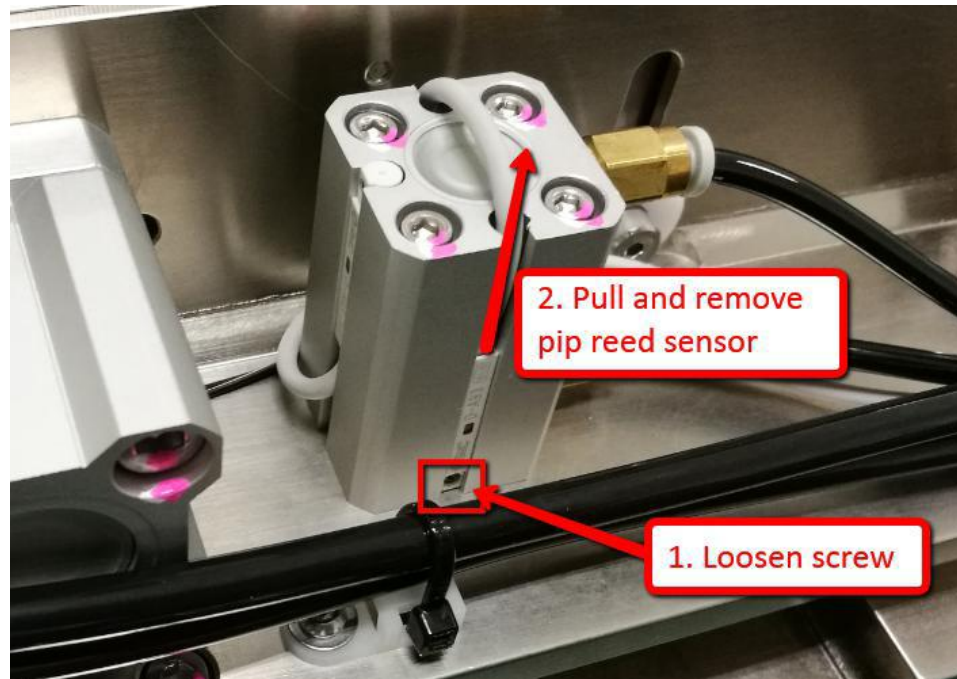

Figure 28 Right PIP In Reed Sensor Removal
6. Loosen screw and remove Right PIP In Reed Sensor as shown in Figure 28 below.